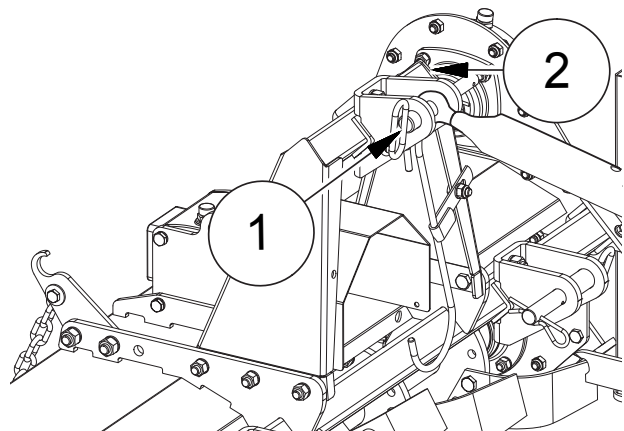

FIG. 14
- Move the tie-rod of the power-lift to the three-point hitch ("Fig. 14"). Set the tie rod so that the machine stays on the ground. Insert the attachment pin (1). Lock the pin with the trigger split pin (2), part of standard equipment.